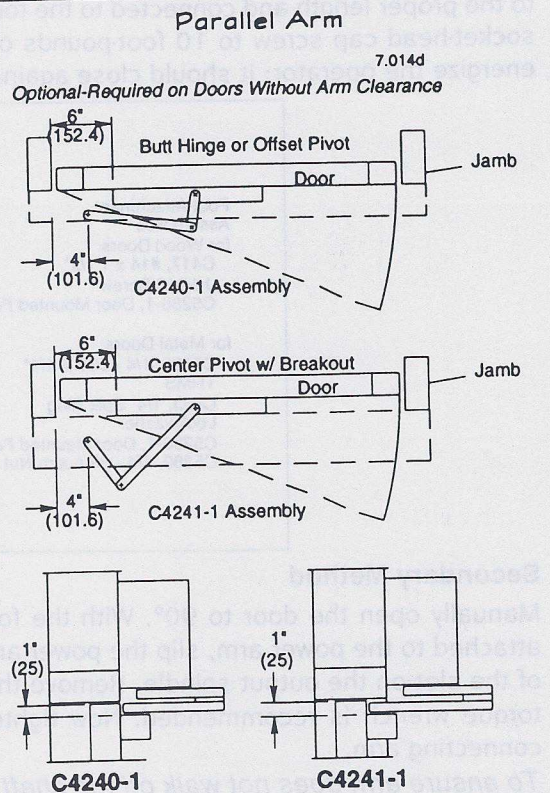

Figure 12
- Install foot in accordance with Figure 9 at dimension "B". See Figure 12 for parallel arm.